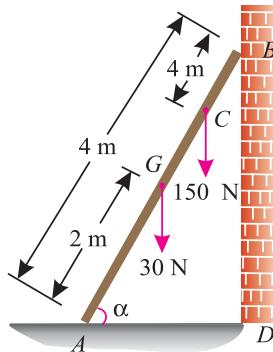

Fig. 9.9.
2. A ladder shown in Fig. 9.9 is 4 m long and is supported by a horizontal floor and vertical wall. The coefficient of friction at the wall is 0.25 and that at the floor is 0.5. The weight of the ladder is 30 N and is considered to be concentrated at  $G$ . The ladder also supports a vertical load of 150 N at  $C$ .